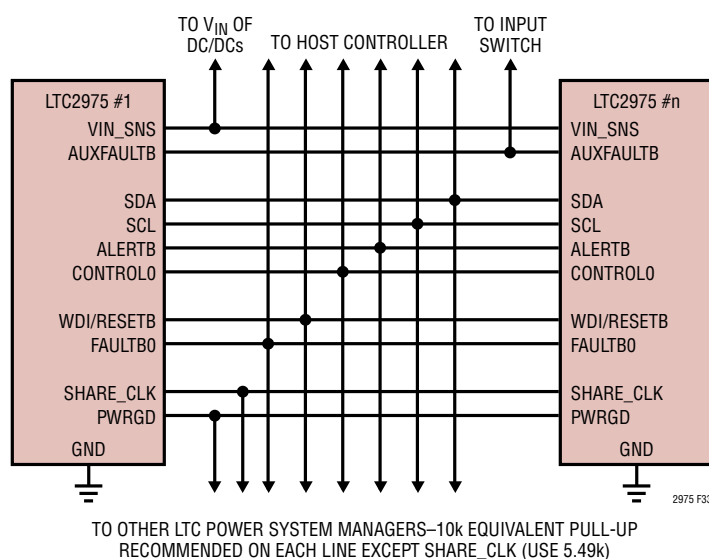
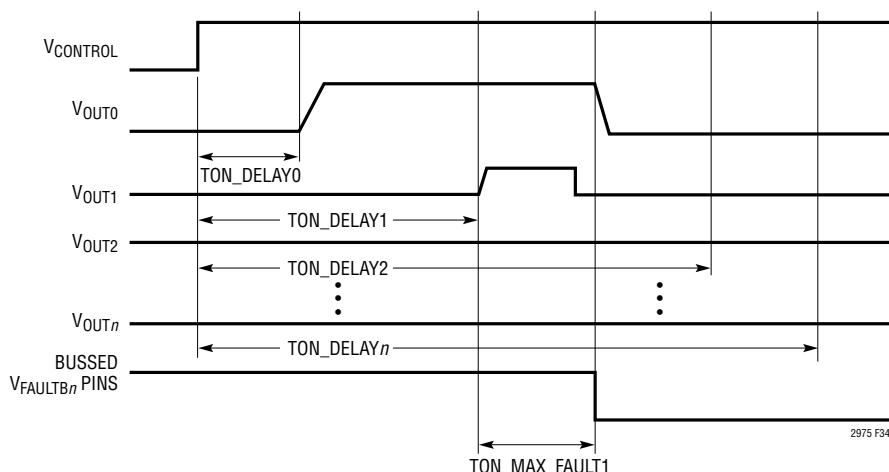

Figure 33. Typical Connections Between Multiple ADI Power System Managers
Figure 34. Aborted On-Sequence Due to Channel 1 Short
Figure 33 shows how to interconnect the pins in a typical multi-LTC2975 array.
- The FAULTB lines can be connected together to create fault dependencies. Figure 33 shows a configuration where a fault on any FAULTB will pull all others low. This is useful for arrays where it is desired to abort a startup sequence in the event any channel does not come up (see Figure 34).
- PWRGD reflects the status of the outputs that are mapped to it by the MFR_PWRGD_EN command. Figure 33 shows all the PWRGD pins connected together, but any combination may be used.